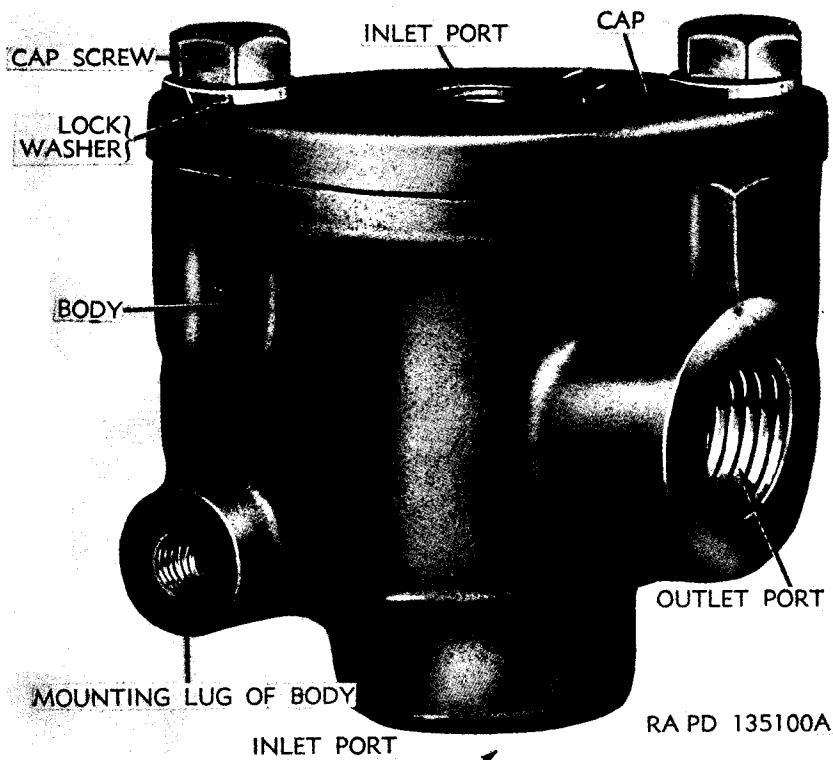

Figure 178. Disk type double check valve.
(2) *Disk type* (figs. 178, 180 and 182). The disk type consists of a cast body closed by one cap held in place by cap screws. The valve is a free rubber disk (or a rubber disk fastened to a free plug that serves to prevent the valve from tilting in the valve guide) inclosed in a perforated valve guide which is positioned centrally in valve body. Four tapped connections for air lines are provided; two inlet connections, one in cap and one in end of body, and two outlet connections in the body, diametrically opposite each other from the central chamber.